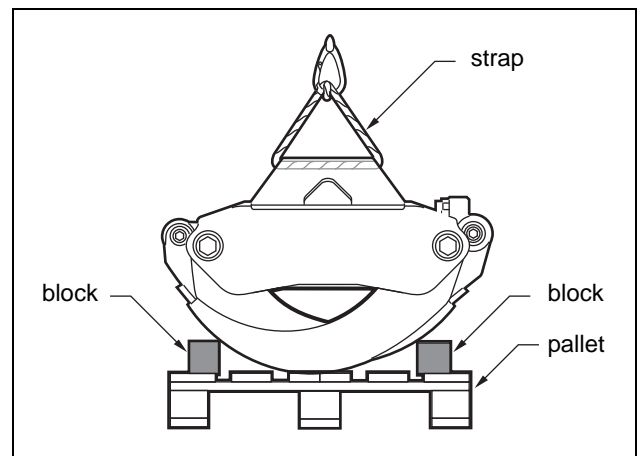

Fig. 7 Arrangement of the grapple at transportation or service
Note! Nail blocks to the pallet base to prevent the grapple from falling during transportation or service. Tie a strap around the stand for safe lifting. *See Fig. 7.*
1. Place the grapple on a firm base. *See Fig. 7.*